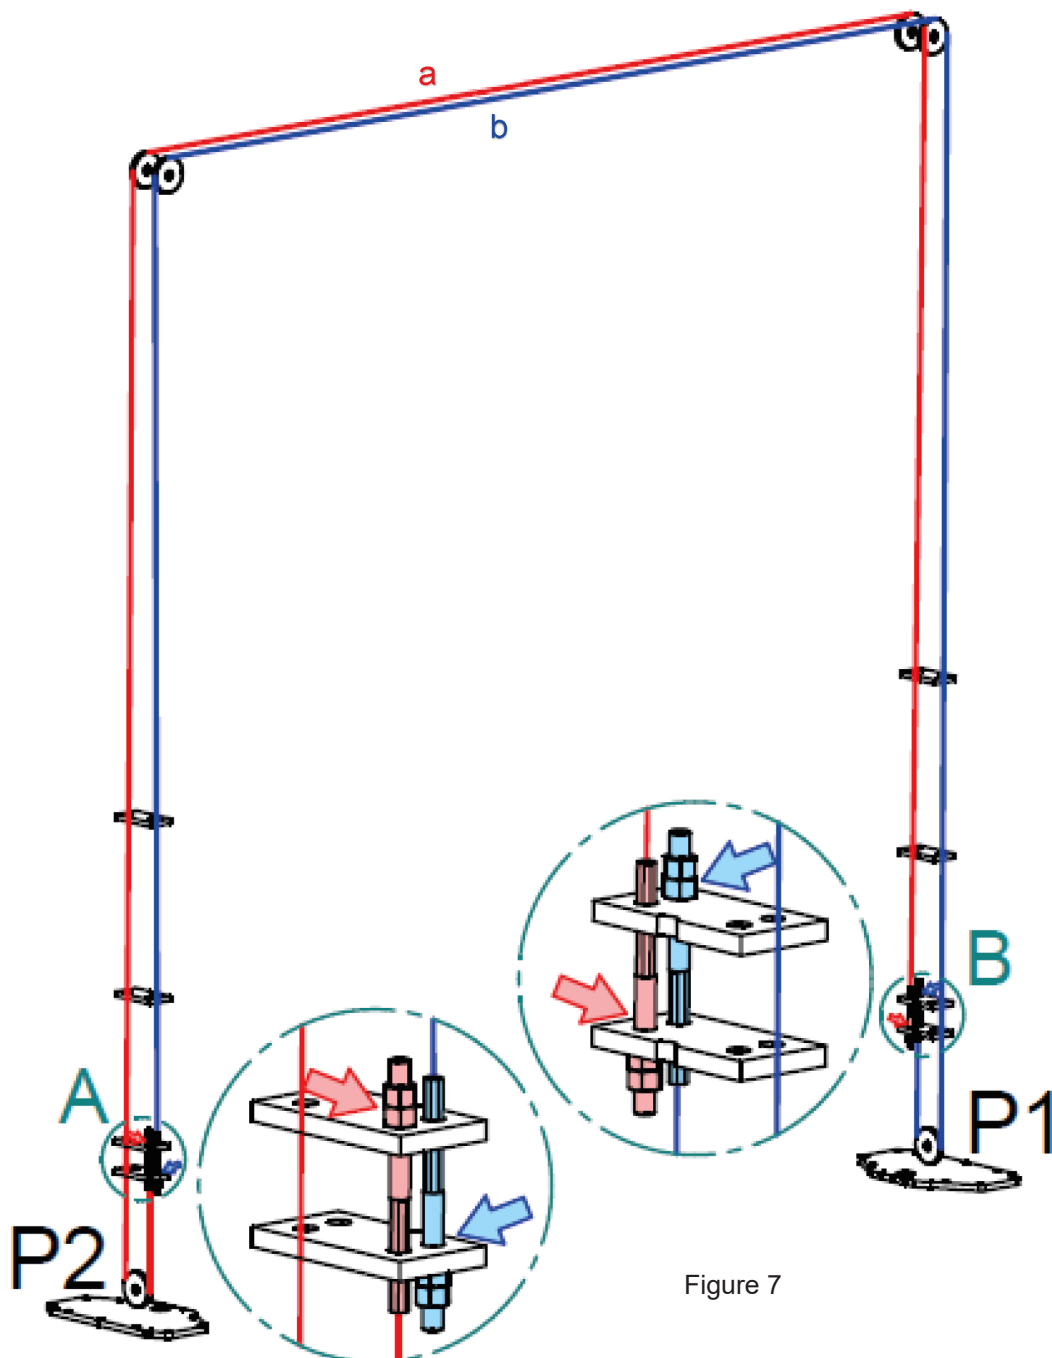

Figure 7
- connect the synchronism cable "a" to the carriage of column P1 on the front connection (figure 7) with the locking nuts on the bottom and the cable directed upwards;